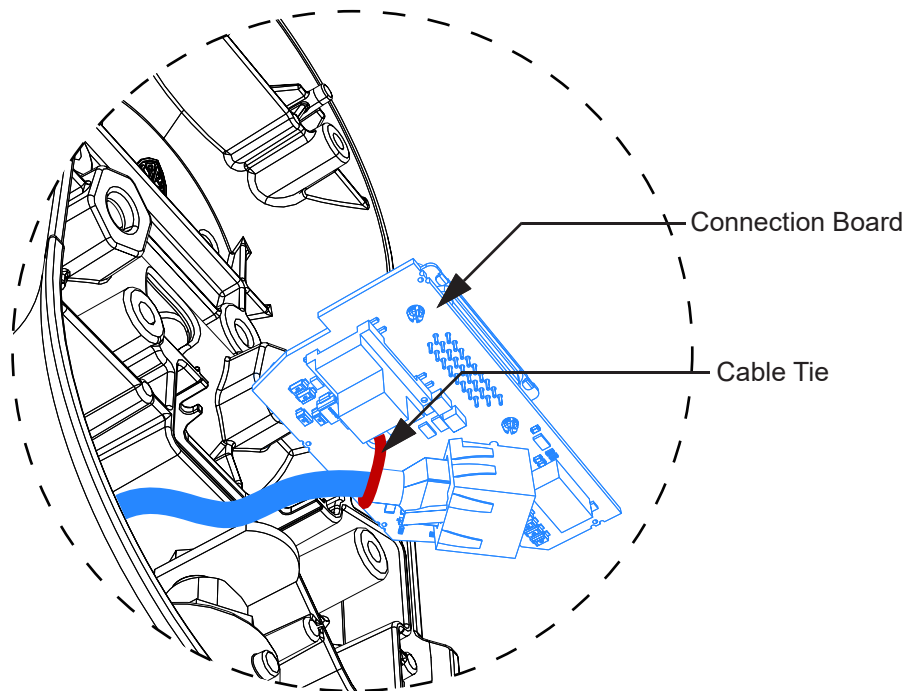

Figure 3-48 Cable Connection
Step 2 Secure the plug to the connection board with a cable tie, see **Figure 3-48**.